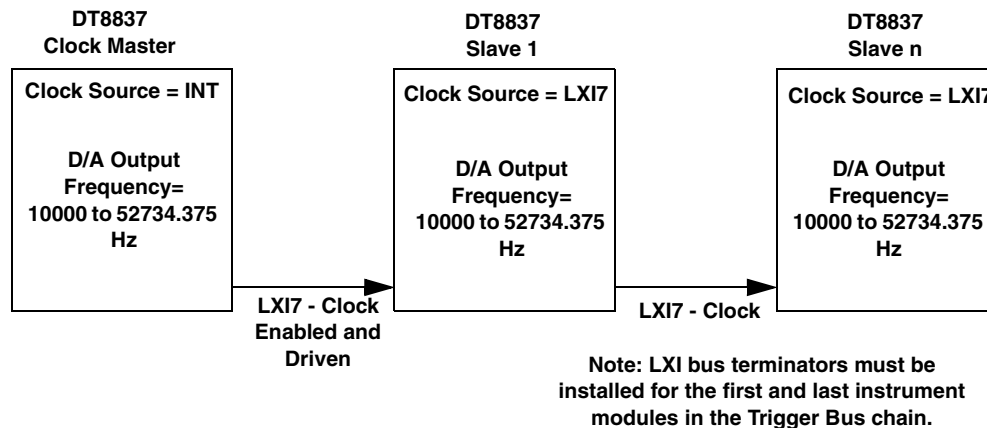

Figure 16: Synchronizing the Clock on Multiple DT8837 Instrument Modules For Analog Output Operations
- **LXI7** – When multiple DT8837 instrument modules are connected together using the Trigger Bus, as shown in Figure 16, LXI7 selects the dedicated clock signal (LXI7) on the Trigger Bus to synchronize the clock on the connected DT8837 instrument modules.